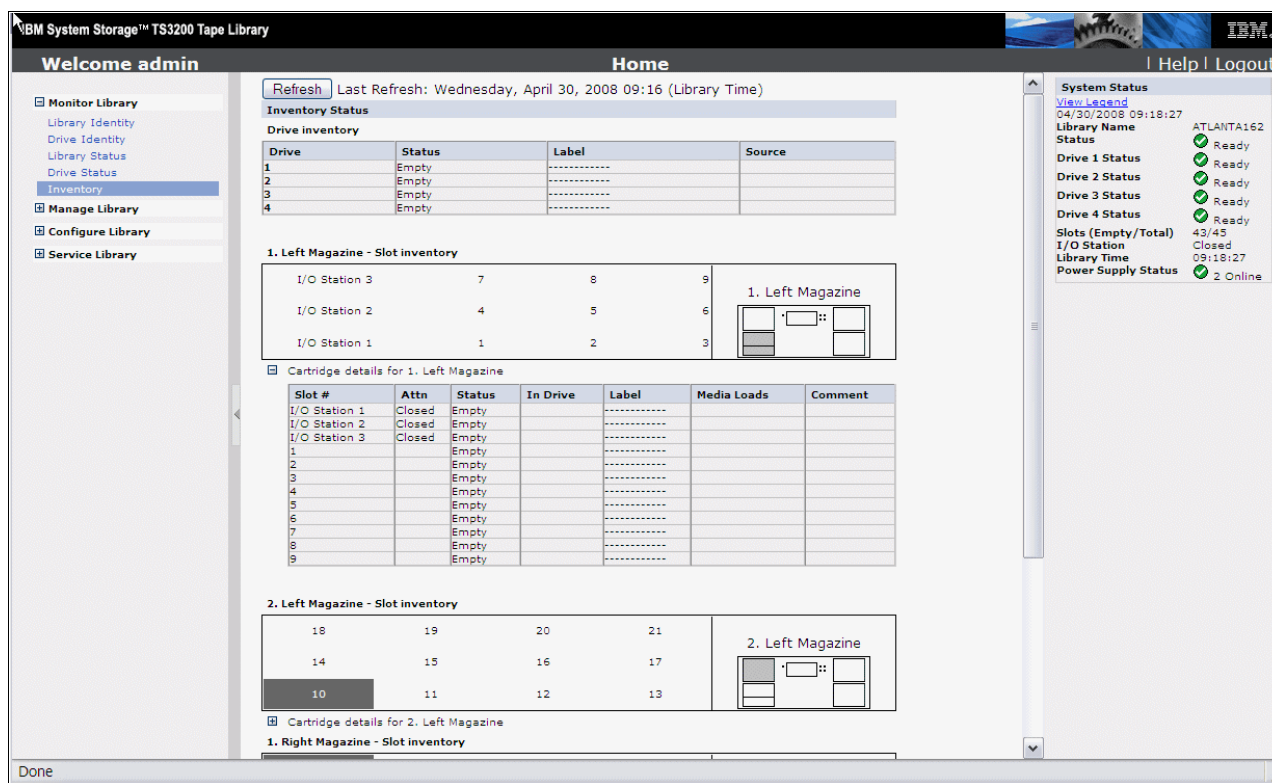

Figure 9-4 Lower left magazine: IBM TS3200 Tape Library
6. When the IBM TS3200 Tape Library fills up with cartridges, use the Web User Interface to show the inventory of each magazine. Figure 9-4 shows the inventory of the lower left cartridge magazine that is filled with seven cartridges. Note the three slot I/O station on the left.